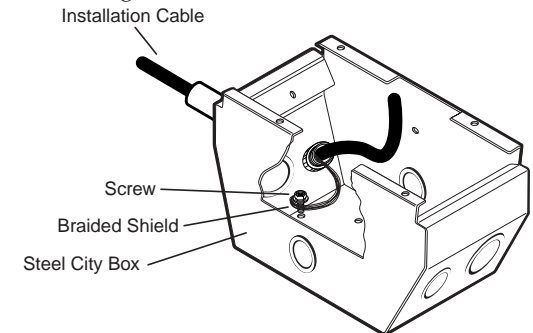

Figure 1 — Grounding outer braided and foil shields, AFM 2 box
3. Exposed cable shields (braids or foil) are potential sources of short circuits. Trim back and/or insulate shields with heat shrink (figure 1).